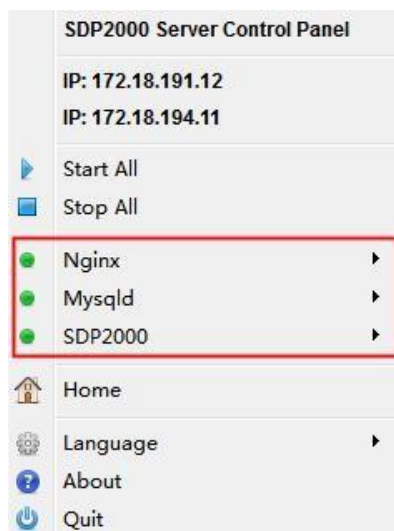

Figure 4-3
Step 2: Check if the status of Nginx, Mysqld, and SDP2000 is "green (normal status)", if any item displays "gray status", then you need to "restart" the software, so that the status of PHP, Nginx, and MariaDb becomes "green (Normal state)", as shown in Figure 4-3 below.